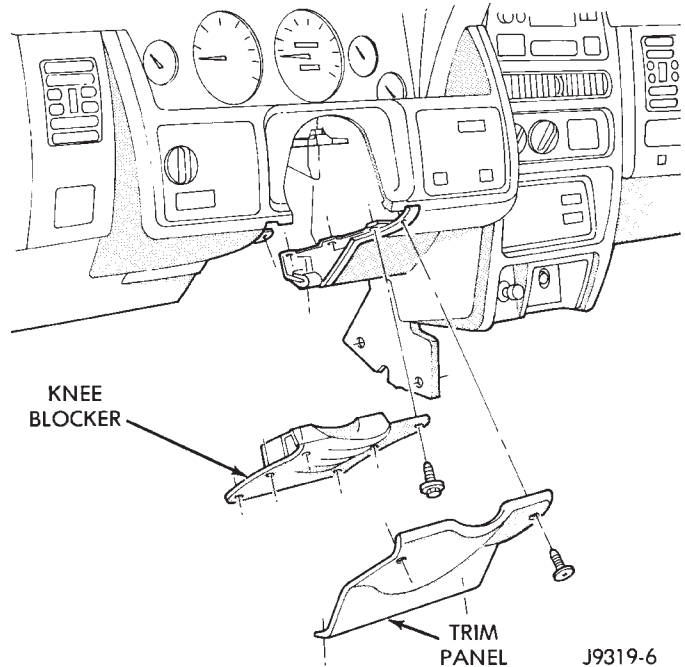

Fig. 6 Trim Panel Column Cover
- (5) Remove the trim panel column cover and support plate (Fig. 6).
- (6) Remove tilt lever from column.
- (7) Remove the upper and lower lock housing shrouds.
- (8) Remove the heater cross over tube from under the column.
- (9) Loosen the panel bracket nuts/studs to allow the column to drop.